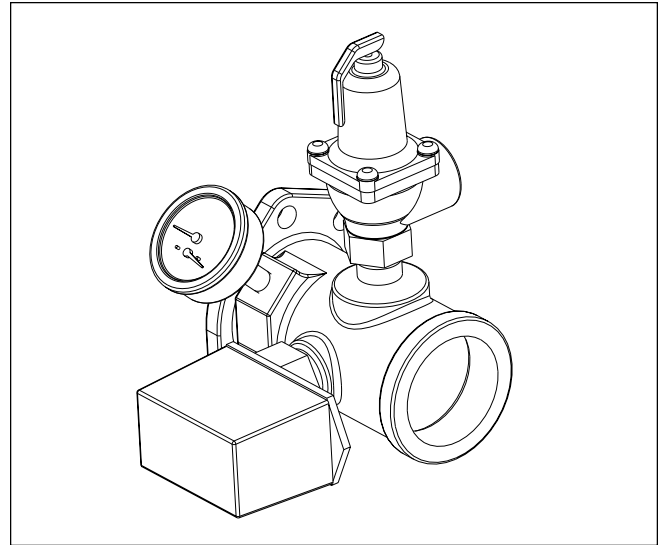

Figure 7. Pressure Relief Valve Location.
2. The pressure relief valve installed in the tapped opening provided in the outlet header (see Figure 7), must be piped, but not fastened, to a drain or floor sink. The drain pipe must be the same size as the valve outlet and must pitch downward from the valve. Pay special attention to relief valve settings in installations where the heater is located on the ground floor of a tall building, or where the operating temperature of the heater is